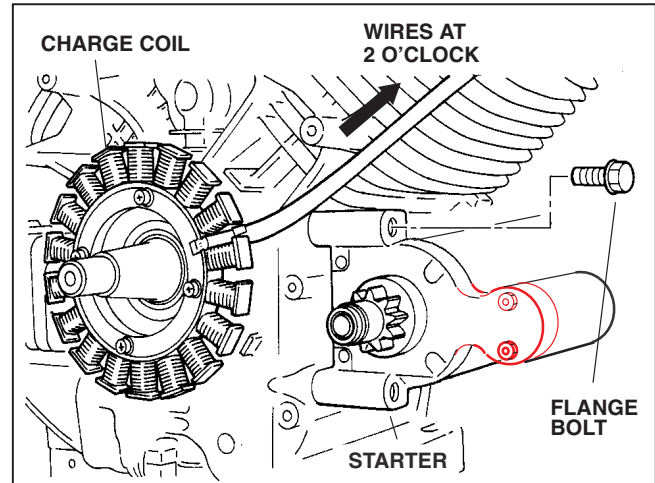

FIGURE 6-13.
1. Install charge coil with the wires routed at the 2-o'clock position (Figure 6-13).
2. Tighten the bolts and washers gradually in an even pattern to the specified torque (Figure 6-13).